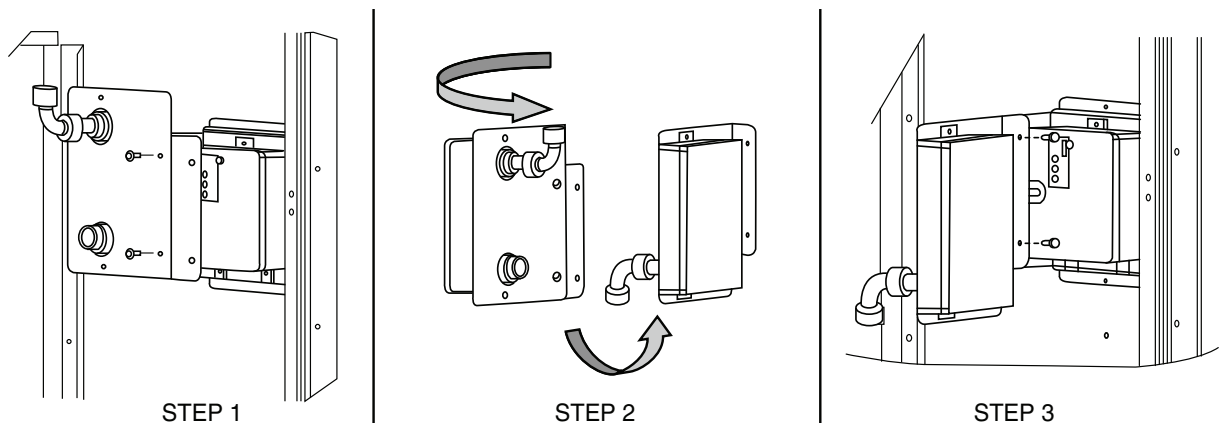

Fig. 49 — Completing Installation of Return Air Smoke Sensor
1. Unscrew the two screws holding the return air smoke detector assembly. See Fig. 49, Step 1. Save the screws.
2. Turn the assembly 90 degrees and then rotate end to end. Make sure that the elbow fitting is pointing down. See Fig. 49, Step 2.
3. Screw the sensor and detector plate into its operating position using screws from Step 1. See Fig. 49, Step 3.